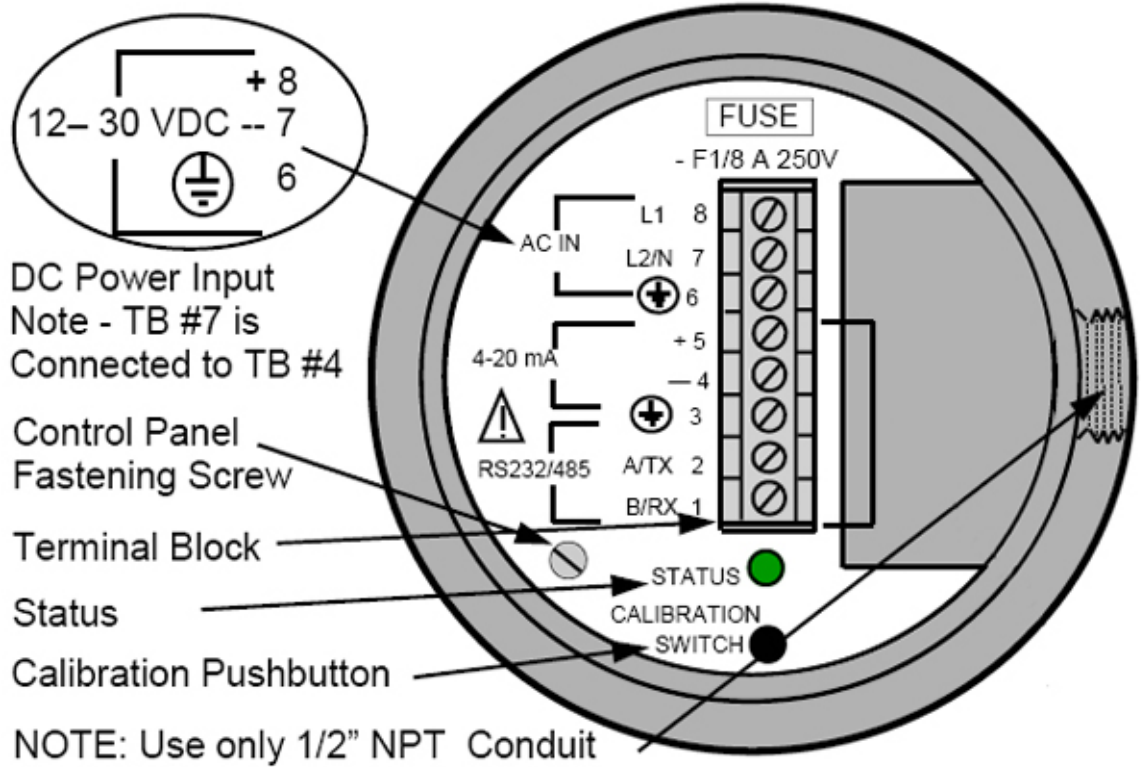

Figure 6
4. Terminal is for use only with equipment that has no live parts that are accessible. (See Figure 6, page 16.)
5. Terminal is for use with equipment, which maintains basic insulation from hazardous voltage under normal and single fault conditions. (See Figure 6, page 16.)
6. Connection used at the remote end of external circuit. (See Figure 6, page 16.)